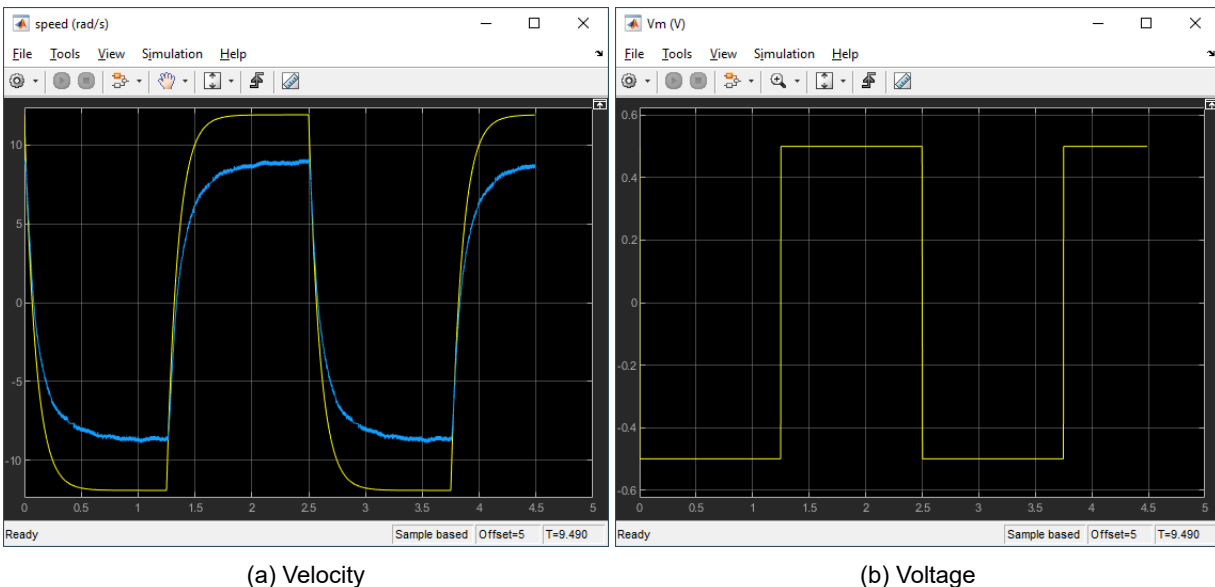

Figure 2.4: Example model validation response using block diagram model *without friction*
- Build and run the model in QUARC. The sample response shown in Figure 2.4 shows the input motor voltage and the measured and simulated response of the QUBE-Servo 2 *without any friction modeled*.